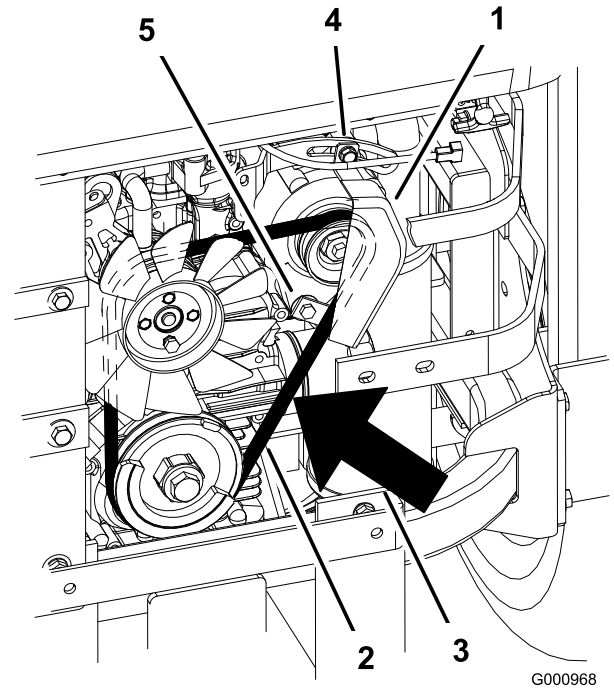

Figure 90
2. Adjust the alternator to the outside until there is 7 to 9 mm (1/4 to 11/32 inch) deflection in the belt between the engine and the alternator pulleys with 10 kg (22.1 lb) of force (Figure 90).
5. If the deflection is correct, tighten the bottom and upper bolt (Figure 90).